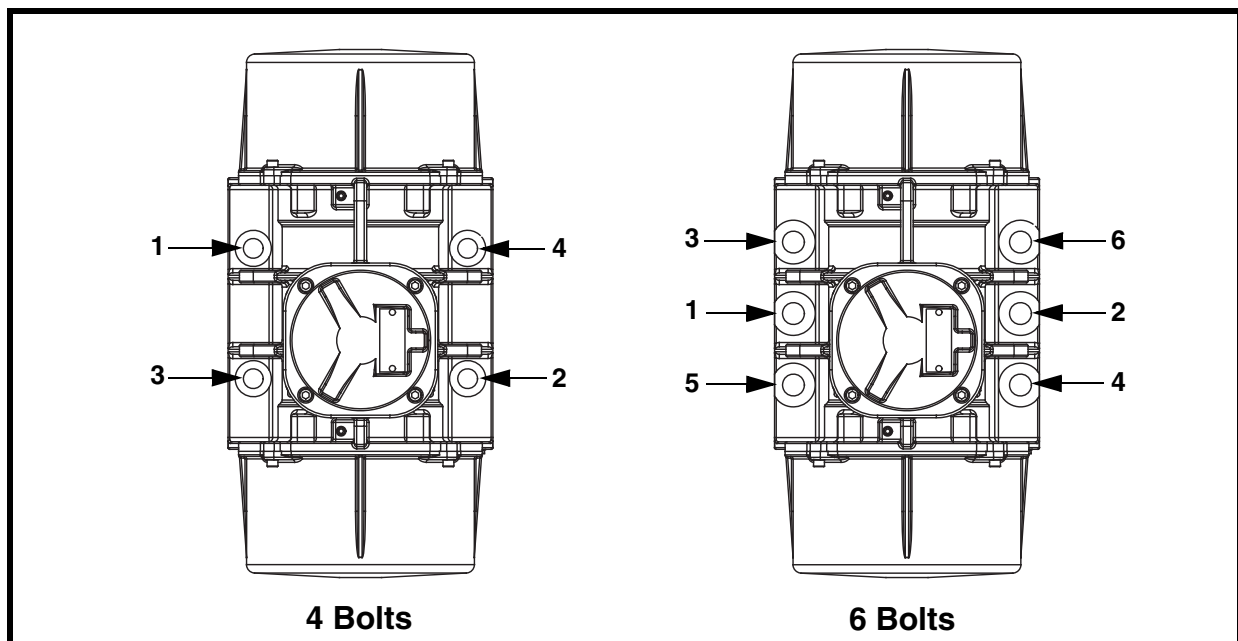

Figure 1. Mounting Bolt Tightening Sequence
Tighten mounting bolts in sequence shown in Figure 1. If not tightened in order, vibrator casting could be damaged.
1. Position vibrator mounting holes over mounting holes on screen frame. Use bolts to hold unit in place. Tighten bolts in order given in Figure 1 to avoid damaging vibrator casting.